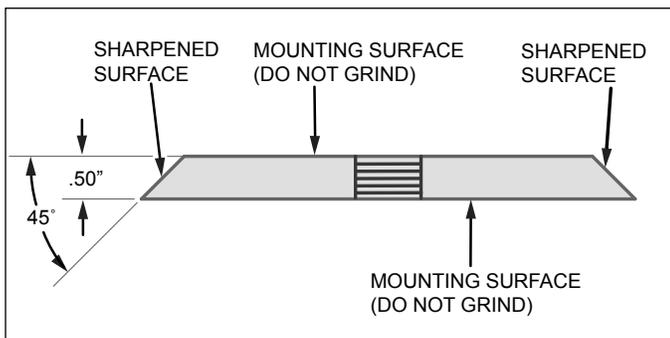

Figure 5.2, Chipper Blade Surfaces
2. Regrind the angled edge of the chipping blades to 45 degrees (Figure 5.2). Make sure some type of fixture is used to correctly hold the blade at the proper angle.